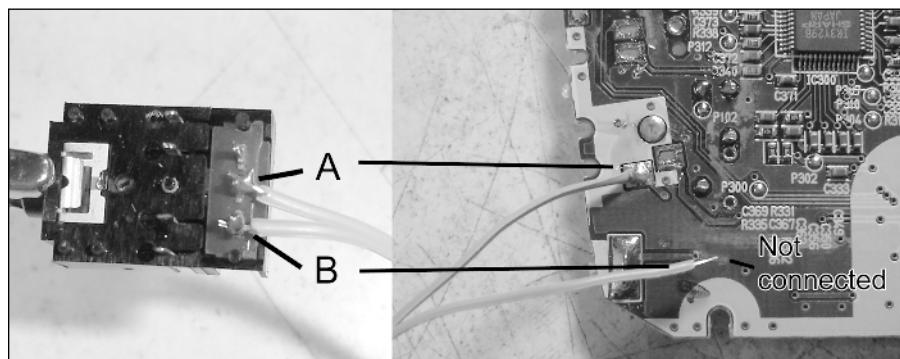

FIGURE 4-12: Connect to the plug and board as shown (“B” is not yet connected on the board side).
1. Cut up a two-strand of ribbon cable 8" in length. Connect it to the audio/video jack and the lower board, as shown in Figure 4-12.